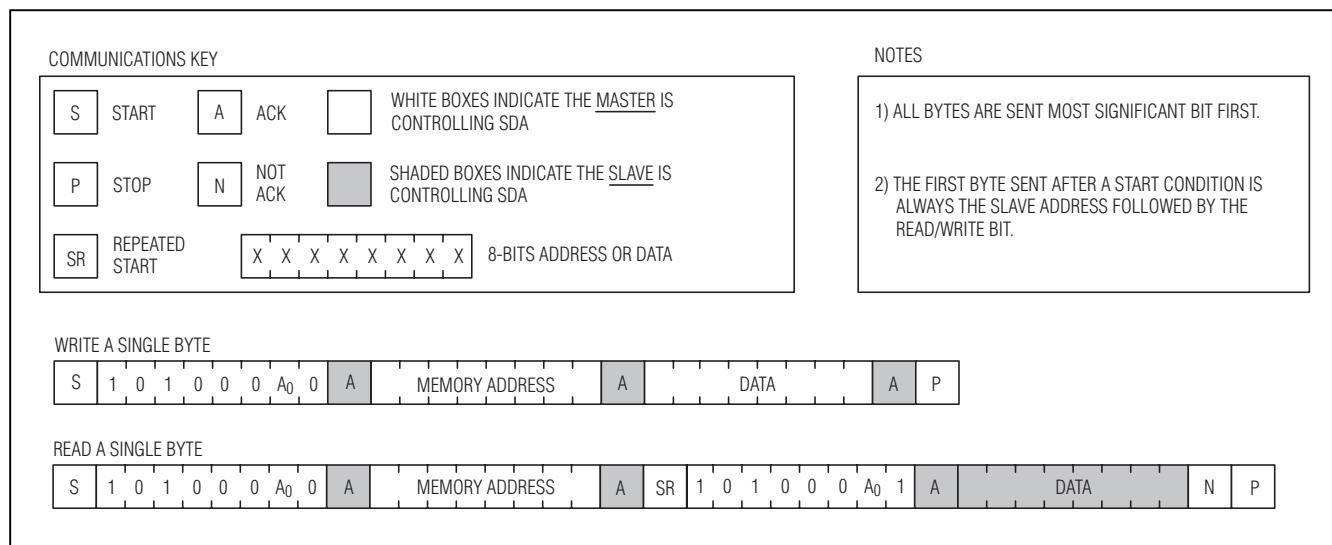

Figure 12. I2C Communications Examples
**Writing a Data Byte to a Slave:** The master must generate a start condition, write the slave address byte ( $R/\overline{W} = 0$ ), write the memory address, write the byte of data, and generate a stop condition. Remember the master must read the slave's acknowledgement during all byte write operations. See Figure 12 for more detail.
**Reading a Data Byte from a Slave:** To read a single byte from the slave the master generates a start condition, writes the slave address byte with  $R/\overline{W} = 0$ , writes the memory address, generates a repeated start condition, writes the slave address with  $R/\overline{W} = 1$ , reads the data byte with a NACK to indicate the end of the transfer, and generates a stop condition. See Figure 12 for more detail.